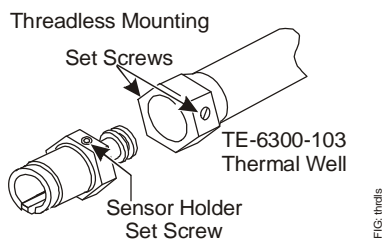

Figure 9: Installing the Threadless Sensor Holder
- **Threadless** (TE-63xAP-1), see Figure 9 and loosen the two well set screws (the TE-6300W-103 contains thermal grease). Insert the sensor holder, then tighten the well set screws.